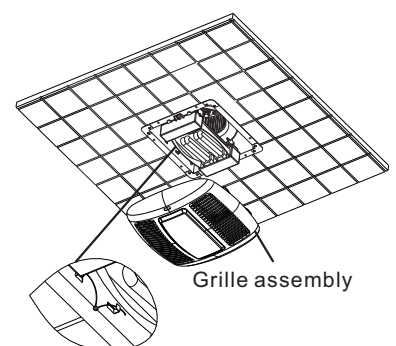

Fig.8
9. Insert the grille springs into the slots of the casing and mount the grille unit. Finish the installation work .(Fig.8).